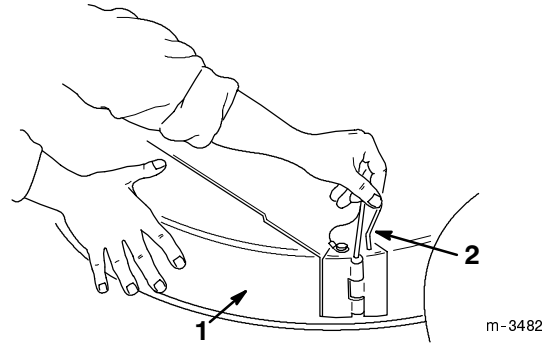

Figure 9
1. Secure the retainer to the duct with the barbed clip and spacer fastener (Fig. 9).
2. Slide the duct over the end of the chute, aligning the retainer with the knob on the chute. Pull the retainer over the knob, securing the duct and chute (Fig. 9).
5. Slide the front of the chute into the locking position on the mower. Insert the locking pin (Fig. 9).
1. Remove the locking pin securing the chute to the mower. Pull the chute out of the mower (Fig. 9).
2. Disconnect the retainer on the duct from the knob on the chute and pull the duct free from the chute and grass basket (Fig. 9).